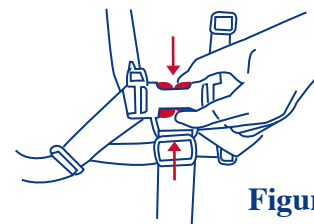

Figure 12b.
- To release, apply pressure to both sides of each male clip until the clip is released. See figure 12b. This process requires a moderate amount of effort so as to prevent an accidental release by your child.